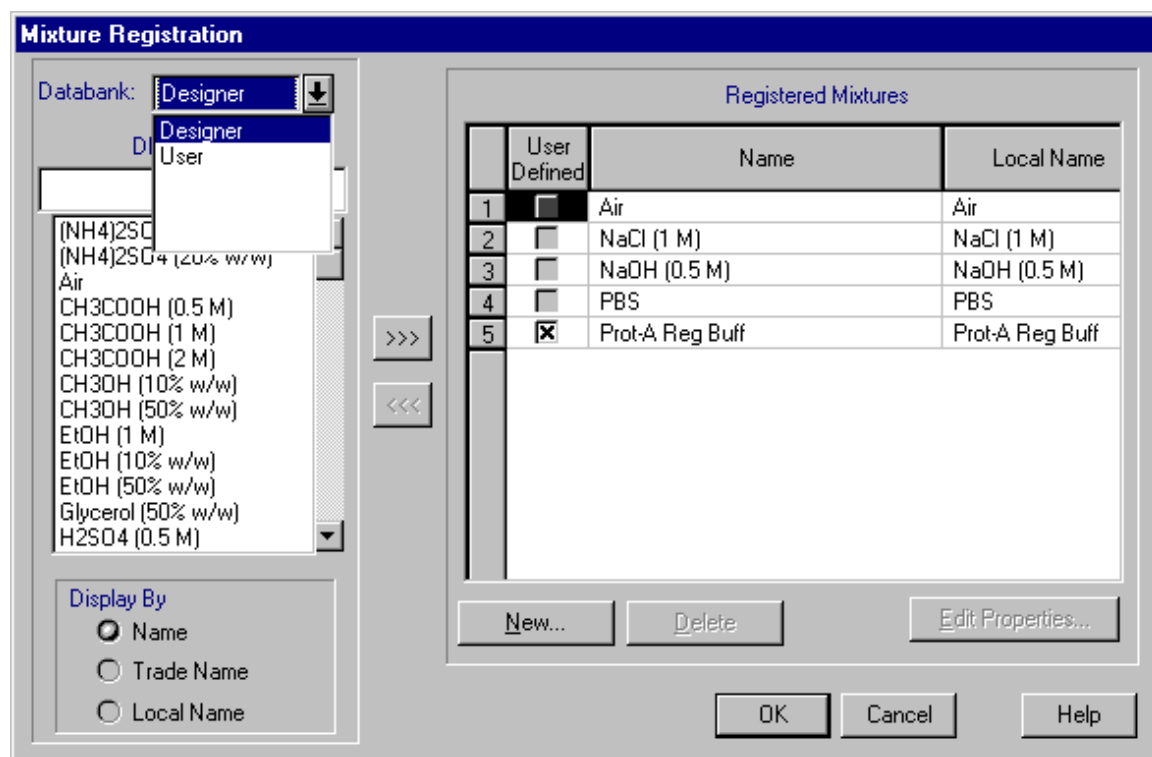

Figure 3.6: Stock mixture registration dialog.
Mixtures can be registered through the dialog that appears when you select the **Tasks: Register / Edit Stock Mixtures...** menu item from the main menu (Figure 3.6). The program also automatically registers all pure components that are ingredients of the mixture (a notification message makes the user aware of this action).
Stock mixtures, like pure components, can either be imported from the program's mixture databanks or defined for the first time for the needs of the specific design case. The contents of the selected (Designer or User) mixture databank are shown in the list box at the left of the dialog (see Figure 3.6). The mixtures in the databank are indexed and can be listed based on Name, Trade Name, and Local Name.
1. Locate the mixture in the registration table, and click on the box that displays the row number of the mixture (e.g., Number 4 for PBS in Figure 3.6). Notice that when you click on it, the whole row that describes the mixture is highlighted. Now the mixture is considered selected.
Click on **New...** (See Figure 3.6) and fill in the fields of the dialog that comes up. Then, select the newly defined mixture and click on **Properties...** to specify the composition and other properties of the new mixture. To introduce a new mixture into the application mixture databank, select **Databanks / Stock Mixtures...** and follow the same procedure as if you introduced a new mixture into the design case.